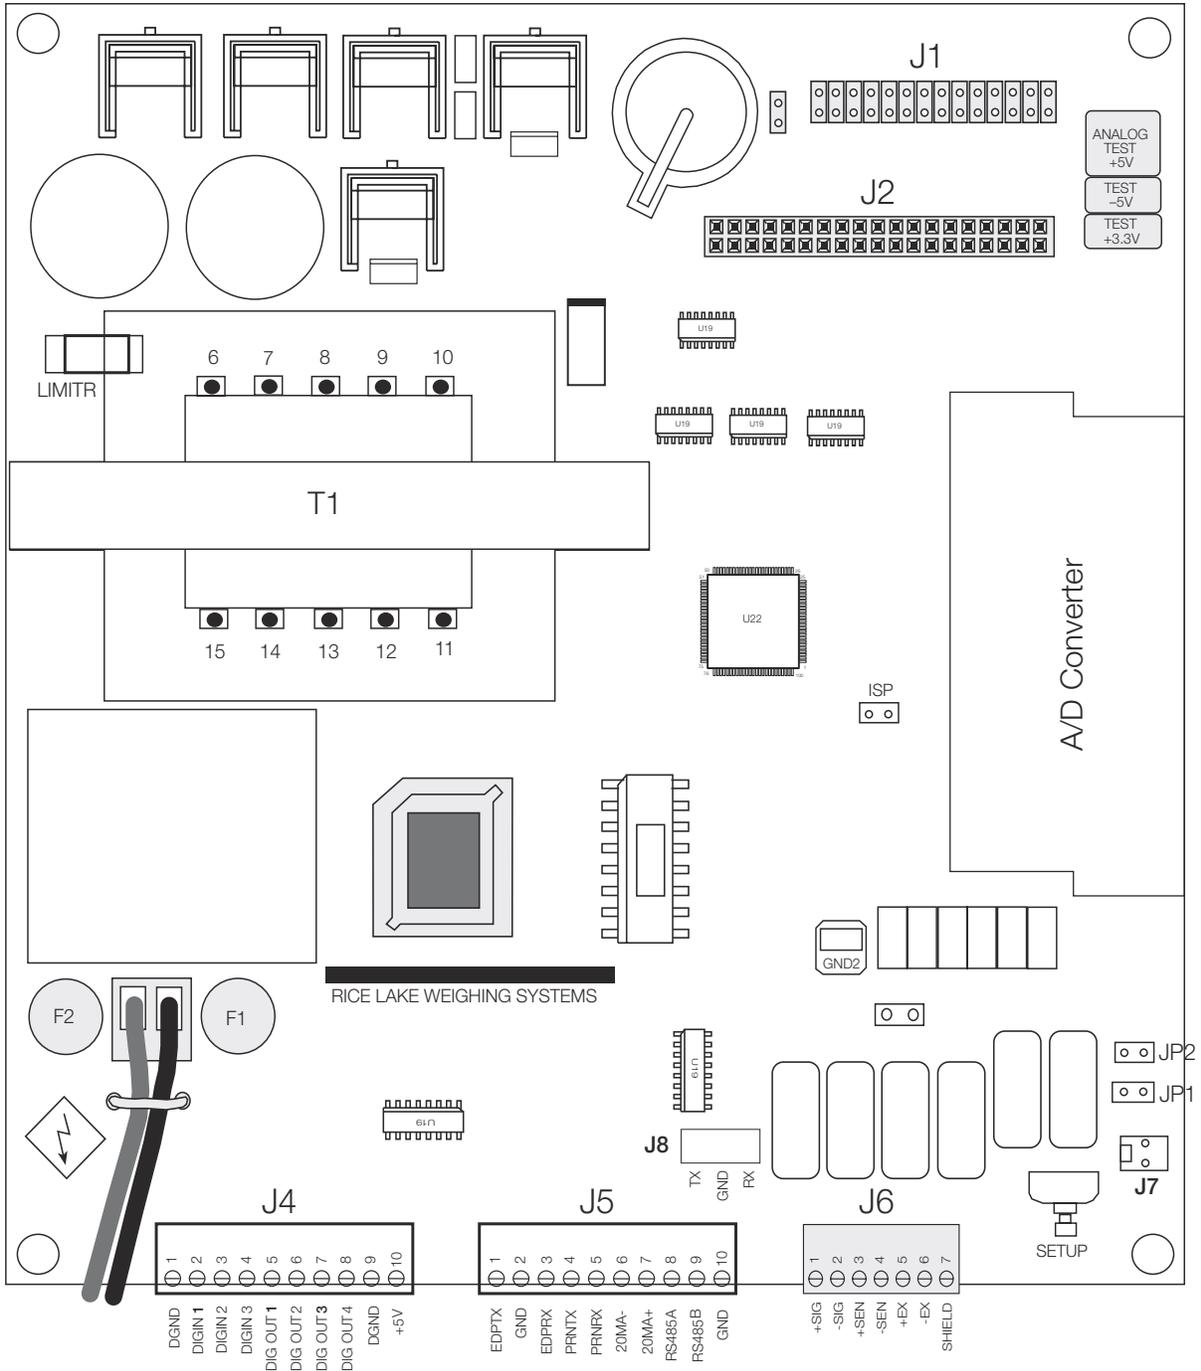

Figure 2-6. 520 CPU and Power Supply Board
2. Unplug connectors J6 (load cell cable), J5 (serial communications), and J4 (digital I/O). If an analog output board is installed, disconnect the analog output cable. See Figure 2-6 on page 10 for connector locations.